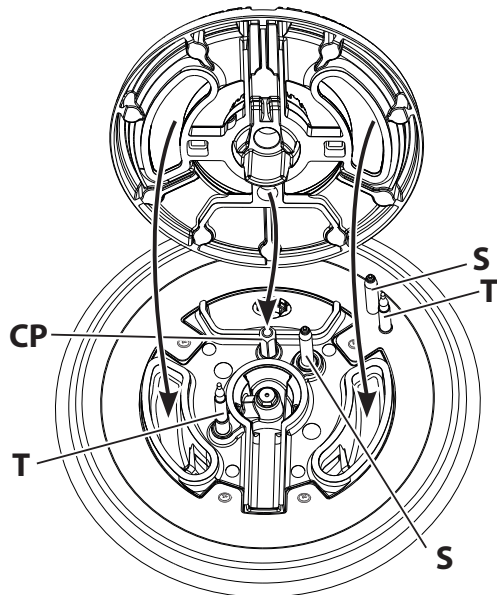

Fig. 5.4
**IMPORTANT:** the Dual burner flame spreader has a centering pin ("CP" in fig. 5.4).